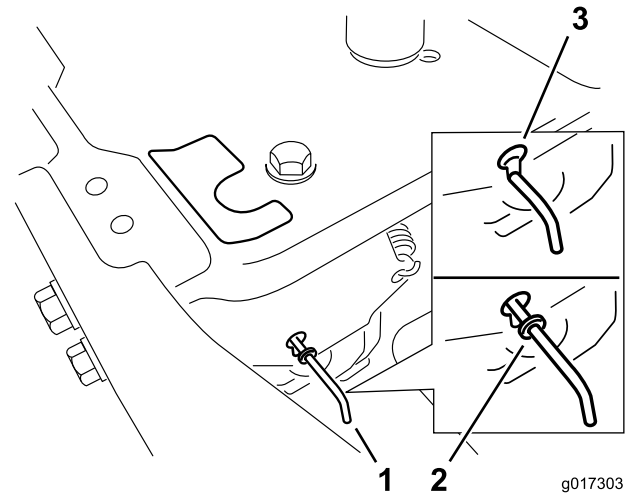

Figure 23
4. Move the bypass levers forward through the key hole and down to lock them in place as shown in Figure 23. Ensure this is done for each lever.
Move the bypass levers rearward through the key hole and down to lock them in place as shown (Figure 23). Ensure this is done for each lever.